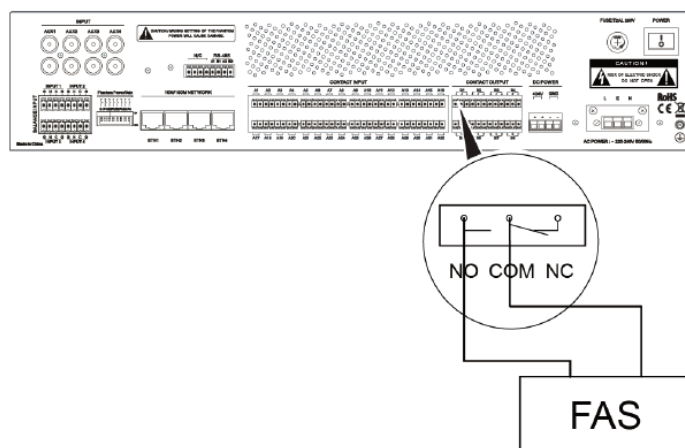

Figure 24 Schematic Diagram of the ZS-4328IO and fire alarm system Connection
3. Connect the fire alarm system. Figure 24 is schematic diagram of the ZS-4328IO and fire alarm system connection.